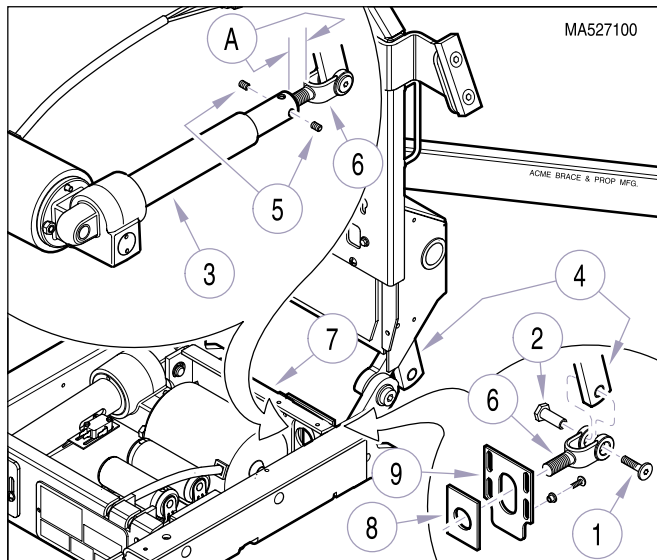
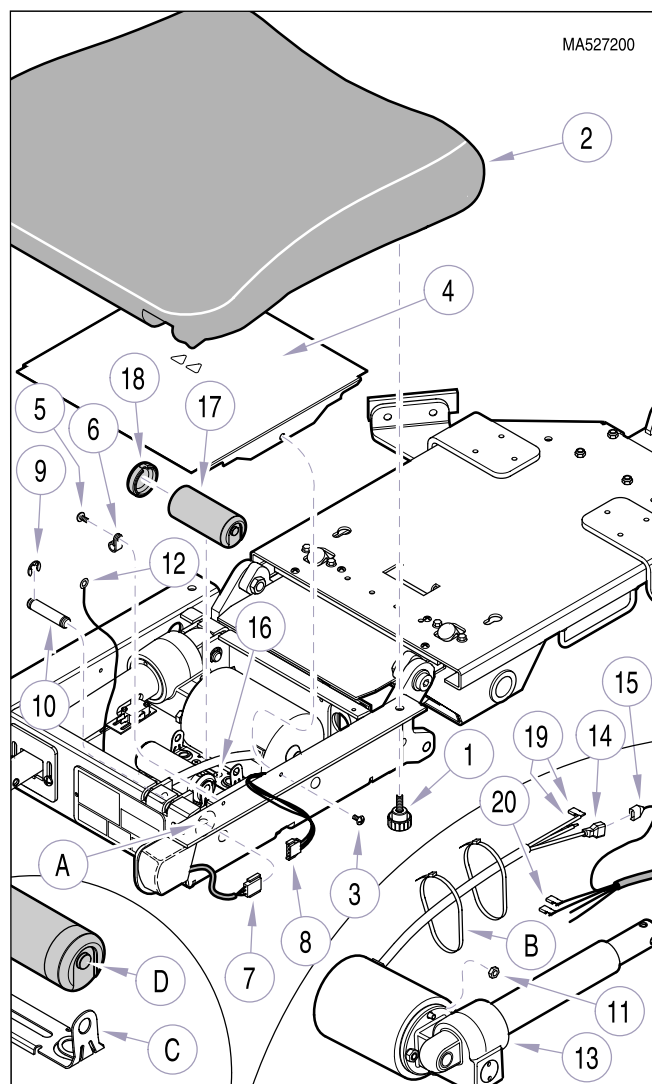

Figure 4-9. Back Actuator Removal/Installation
Figure 4-10. Back Actuator Removal/Installation
- (2) While supporting back section, remove bolt (1, Figure 4-9), and clevis pin (2) securing back actuator (3) to back weldment (4).
- (3) Measure and record distance (A); then remove two set screws (5), and clevis (6) from back actuator (3).
- (4) Using foot/hand control, retract back actuator as far as it will go; then lower back section.
- (5) Unplug table power cord from outlet receptacle.
- (6) Remove four knobs (1, Figure 4-10) and seat upholstery (2).
- (7) Remove two screws (3) and electrical cover (4).
- (8) Remove screw (5) and wire clamp (6).
- (1) Loosen two set screws (5, Figure 4-9); then remove clevis (6) from new back actuator (3).
- (2) Install shaft of back actuator (3) thru seat weldment (7), inner cover (8), and outer cover (9).
- (3) Connect two actuator wires (19, Figure 4-10) to terminals of back capacitor (17); then connect actuator wire (14) to wire (15).
- (4) Install cap (18) on back capacitor (17).
- (5) Position bottom of back capacitor (17) on mounting bracket (16); then push top of capacitor inward. Using a screwdriver, force tab (C) of mounting bracket over the catch (D) of cap (18). Make sure capacitor is held firmly in place.
- (6) Install ground wire (12) on back actuator (13) and secure with nut (11).
- (7) Install clevis pin (10) and secure with two e-rings (9).
- (8) Insert foot sensor wire harness (7) thru access hole (A); then connect foot sensor wire harness to wire harness (8).
- (9) Install wire clamp (6) and secure with screw (5).
- (10) Secure wires together as a bundle using two or more cable ties (B).
- (11) Install electrical cover (4) and secure with two screws (3).
- (12) Install seat upholstery (2) and secure with four knobs (1).
- (13) Raise back section; then while supporting back section, screw clevis (6, Figure 4-9) into back actuator (3) in until distance (A) is met; then tighten two set screws (5).
- (14) Plug table power cord into wall outlet.